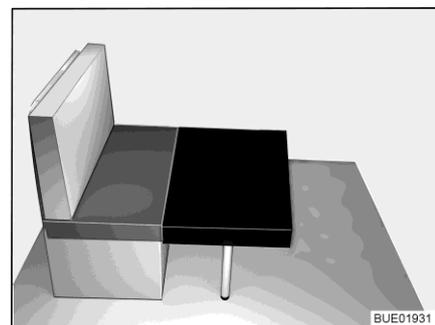

Fig. 68 After conversion
- Place the additional cushion onto the table in front of the seat cushion of the bench (see Fig. 68).